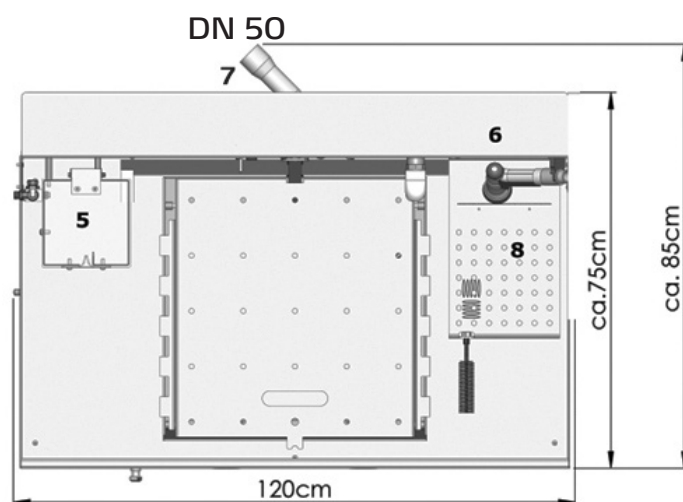

Fig. 2
- Clean tools at the brush cleaning station (scope of delivery in ColorFree top Set) (8) Fig. 2, 7